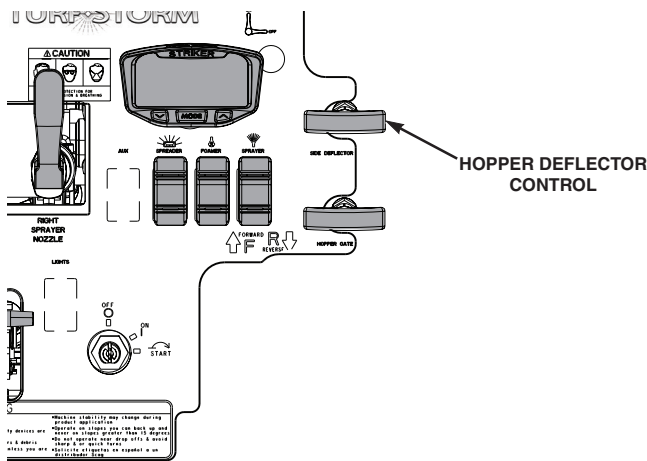

Figure 4-18. Hopper Deflector Control
5. If needed, engage the deflector to avoid spreading material in undesired areas. Refer to section 4.11C, Figure 4-18.